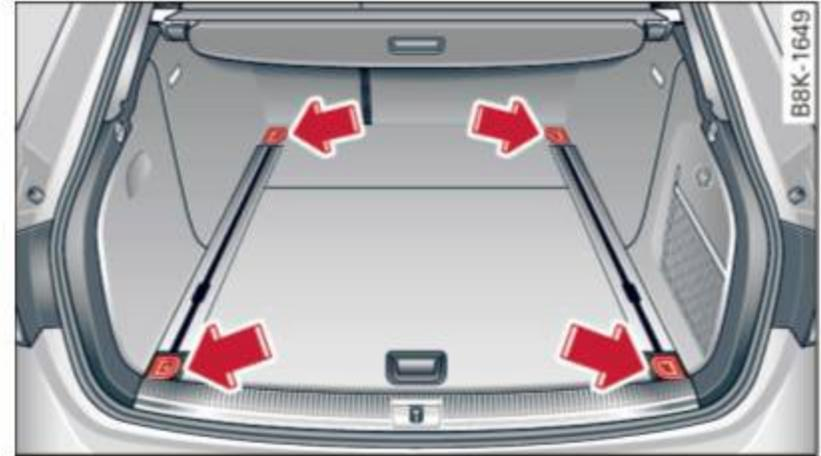

Fig. 83 Luggage compartment: tie-downs
- ▶ Secure objects using elastic cords attached to the tie-downs* ⇒ *fig. 83*.